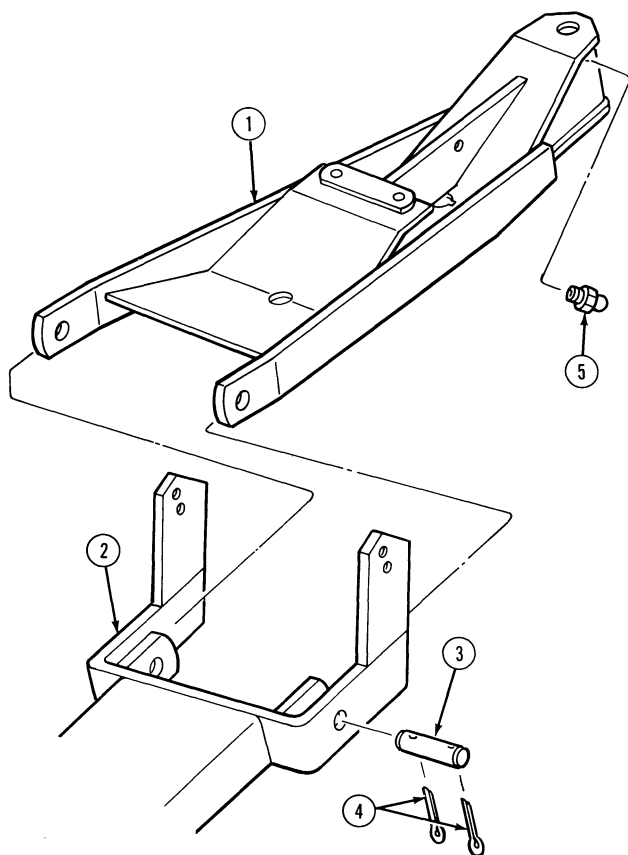

Figure 16
2. Slide the forward frame, (1), toward the rear frame, (2), and secure using two 1-1/4" dia. x 3-5/8" pins, (3), and four 1/4" x 2-1/2" cotter pins, (4), as shown in Figure 16.
3. Attach the grease fitting, (5), Figure 16, to the forward frame. Position the grease fitting toward the rear of the tractor and angled down approximately 15°.